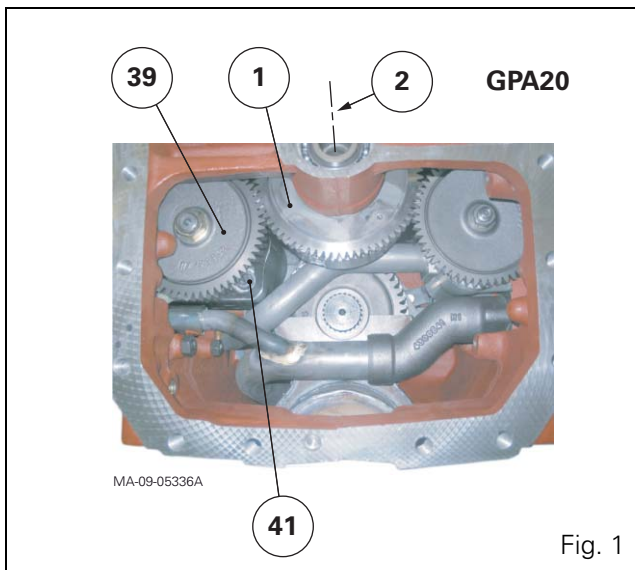
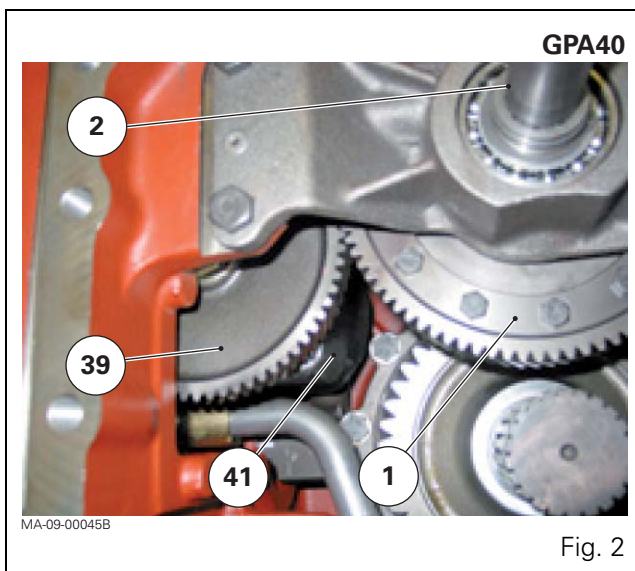
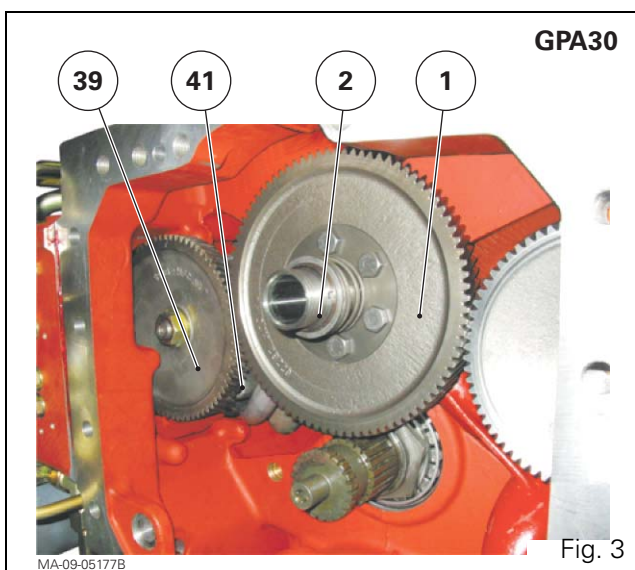

Fig. 1
Fig. 2
Fig. 3
The engine movement transmitted to the gear (1) via the shaft (2) drives the gear (39) of the variable displacement pump (41) (Fig. 1, Fig. 2, Fig. 3). The shaft (2) is splined to the engine flywheel vibration damper via the PTO shaft.